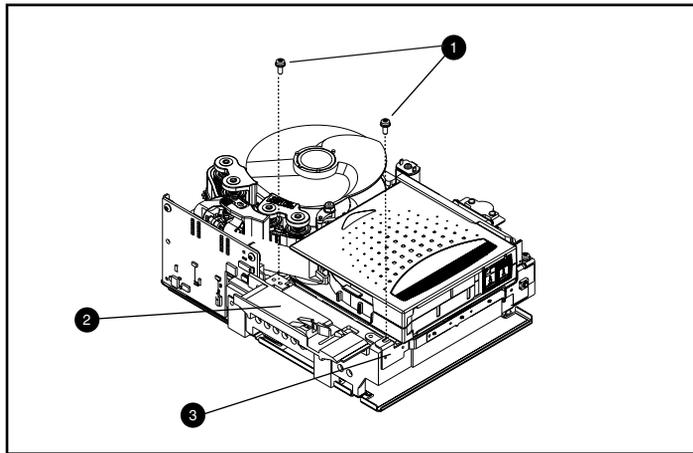

Figure 10: Removing the left guide
1. Remove the two T8 Torx screws **1** (see Figure 10).
The left guide has a flex circuit attached which goes below the tape deck. Lay the left guide **3** flat (as shown in Figure 10), leaving the cartridge in the drive.